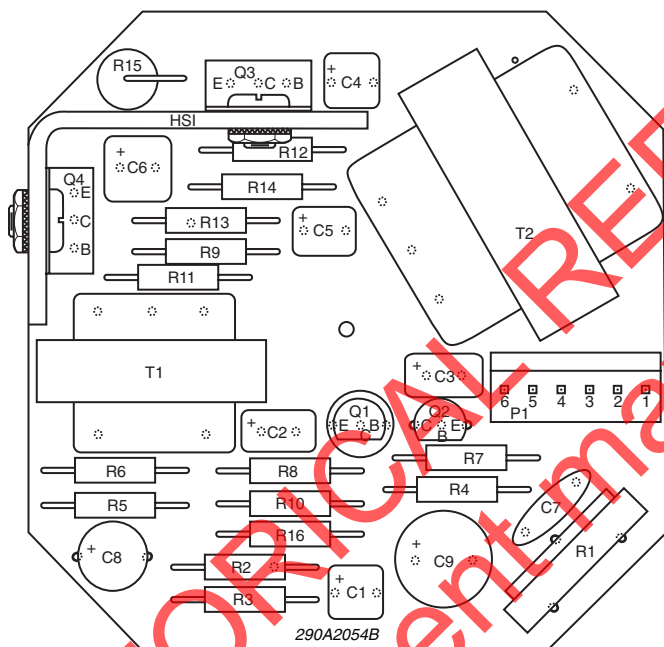

Figure 4. Electronic Megaphone Amplifier Parts Location.
a. Remove screw which secures clip and dee (7).
b. Remove the three Phillips head microphone housing screws. Lift microphone housing (17) away from microphone (16) .
c. Gently lift microphone (16) away from foam pad and place slightly to one side of assembly. Lift the foam pad partially away from the horn assembly until the truss head screw is exposed. Remove truss head screw.
d. Place electronic megaphone on its side. Carefully rotate driver assembly (1) 1/8-turn to the left and pull driver assembly from horn as far as wires from microphone and handle will permit.
4. Hold switch button depressed. With a voltmeter, check for 12VDC between P1 pins 2 and 4 on the amplifier PC board (4) (see figure 4). If correct voltage is not obtained, remove handle and check switch and all connections in handle.